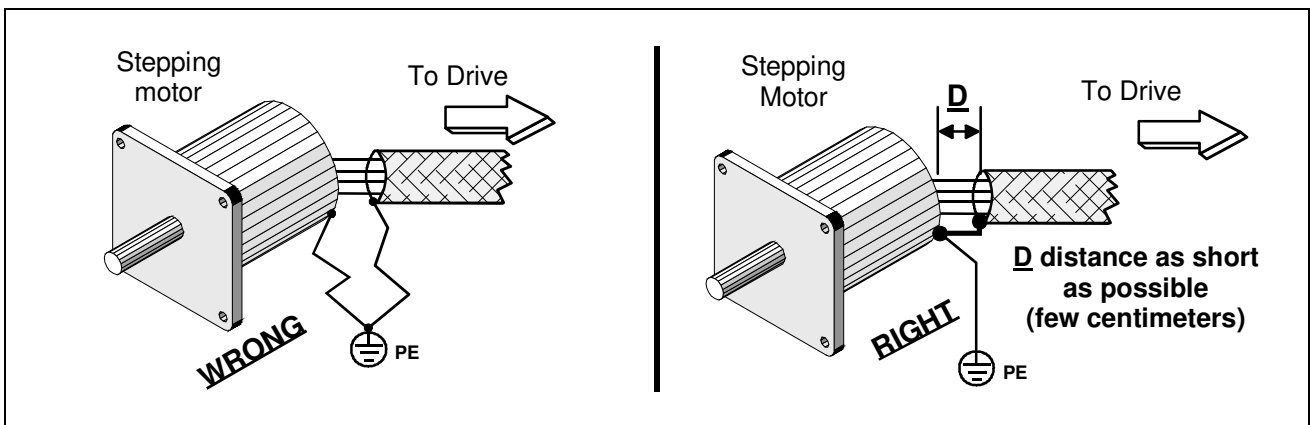

Fig. 14 - Shielded connection at stepping motor side.
- Connect earth line to motor chassis. To reduce the radio-frequency emissions, the mechanical connection of motor to machine chassis (by means of mounting flanges and screws), is typically simple and effective solution. In this case, both screws and chassis must be of conductor material and the chassis must be connected to earth. See fig. 14.